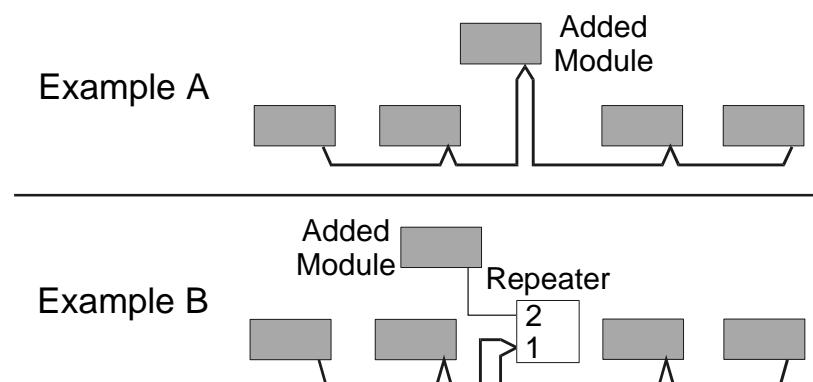

Figure A-2. Adding Modules to a Network.
**A-4.1.1. Adding Modules to the Comms Link.** To insert another module into the Comms link, make a looping connection through it as in Example A of Figure A-2. Alternatively, use a GENII RPTR Repeater Module to branch-off to the new module as in Example B of Figure A-2. Note that the four devices and Port 1 of the Repeater Module are connected in bus topology. Port 2 of the Repeater Module and the added device form a separate network linked by the electronics within the Repeater Module.